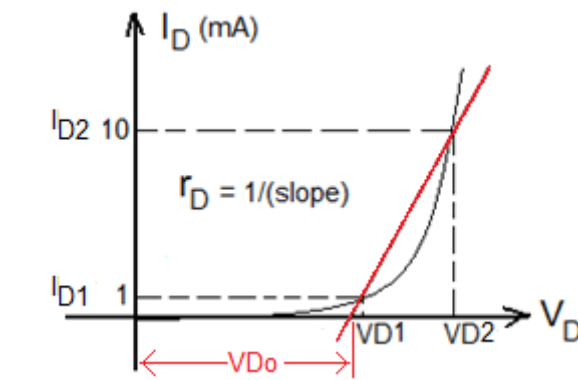

Figure 3 Extracting r_D and V_{D0} from the i-v characteristic.
- i. Find V_{D1} and V_{D2} from your plot (see Fig. 3).
Alternatively, you can draw a line between these two points and extrapolate it on the V_D axis to find V_{D0} (refer to Fig. 3).